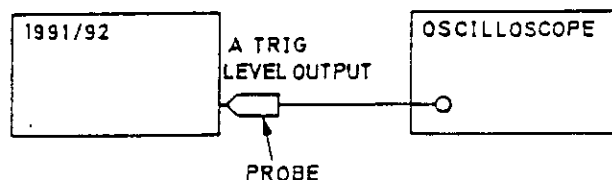

Figure 6.35 - Connections for Trigger Level PVP (I)
6.9.9.2 Trigger Level PVP (I)
- a. Connect the test equipment as shown in Figure 6.35